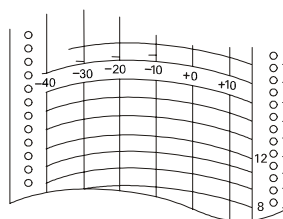

Fig. 1
1. The information on the temperature recording paper is shown in Fig. 1.